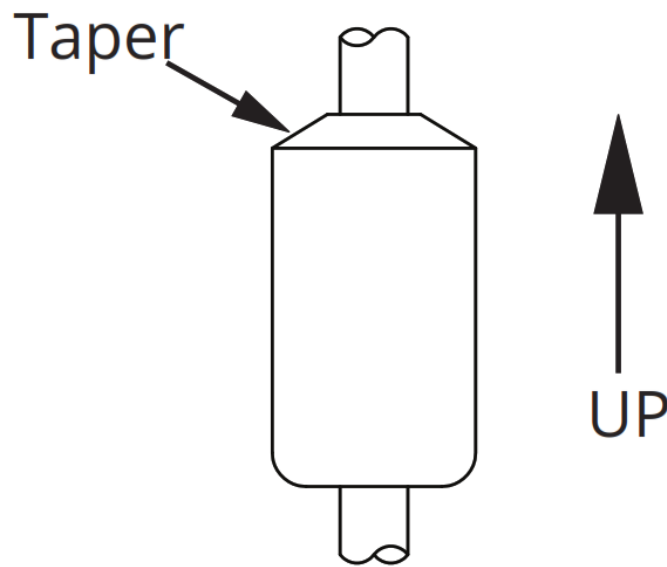

Figure 5.1
- The float(s)/is oriented properly on the stem (See Figure 5.1 below). MPX-E floats will be installed by the factory. MPX-R floats are typically installed by customers.